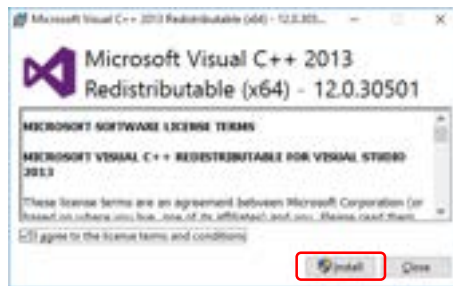

Fig 4-2 Visual C++ Run time Install screen
4) Check “I agree” and Click “Install” such like Fig. 4-2 is displayed. Click “Install”